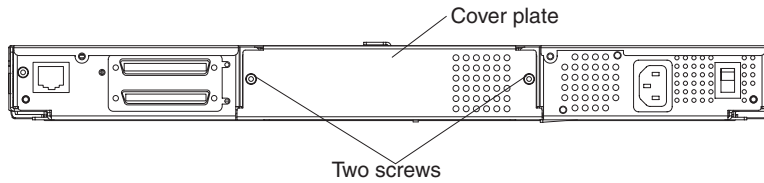

Figure 20. Removing the tape drive cover plate
- ___ 4. Using a #1 Phillips screwdriver, remove the two screws that secure the cover plate (see Figure 20 on page 48). Set the cover plate and screws aside.